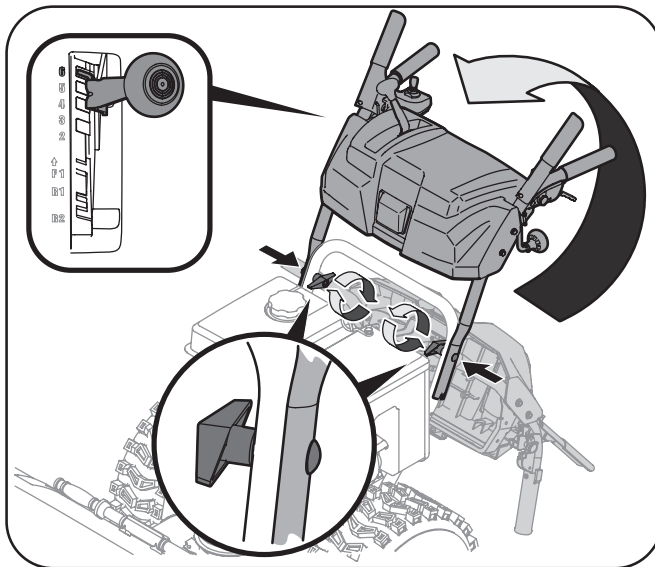

Figure 3-1
2. Observe the lower rear area of the snow thrower to be sure both cables are aligned with roller guides before pivoting the handle upward. See Figure 3-1.